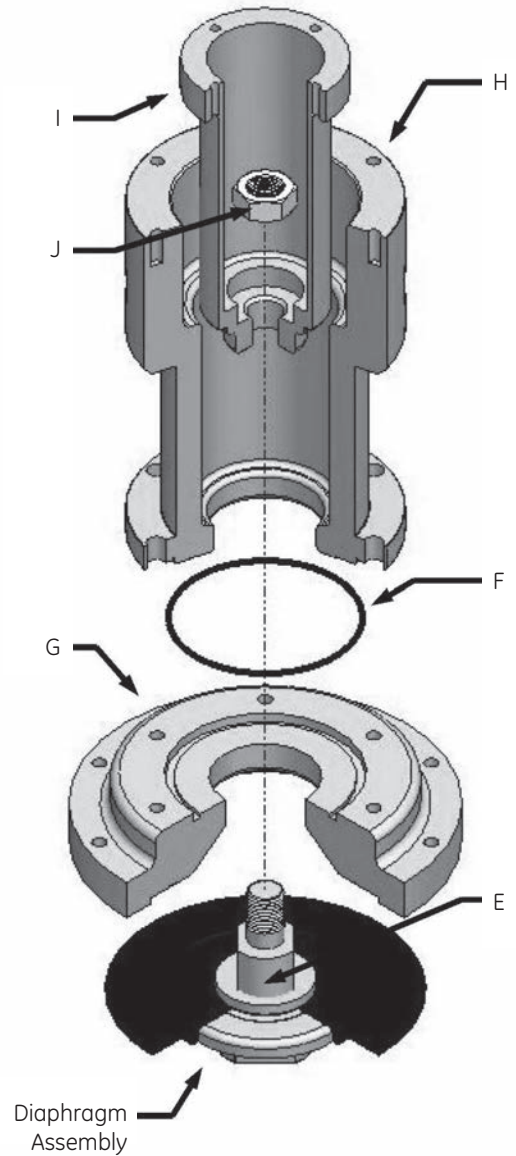

Figure 25 – 175-CH Cartridge Assembly
- Step 1:** Insert the 145 O-ring (F) into the cartridge spacer (G).
- Step 2:** Place the cartridge spacer (G) between the diaphragm assembly and spring chamber (H) as shown in Figure 25.
- Step 3:** Slide the inner tube (I) through the spring chamber (H).
- Step 4:** Attach the thread extension (E) to the inner tube (I) using the 1/2 in. - 20 in. SS jam nut (J).
- Step 5:** Torque the jam nut (J) to 100 to 110 in.-lbs.